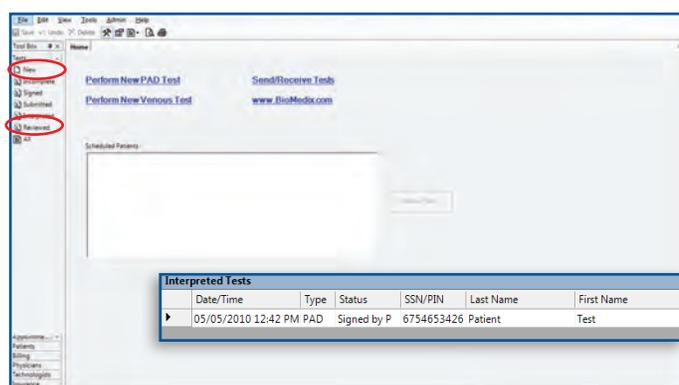

FIGURE 1.51 - Home Screen - “Tests” and Interpreted Tests Window
3. Under the “Tests” list, click “Interpreted” to display all interpreted studies. Select a study by patient name, and double-click to the left of that name to view (Figure 1.51).